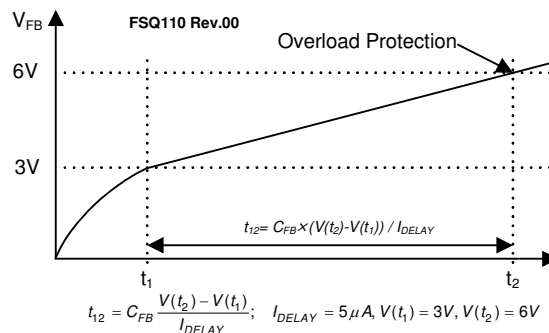

Figure 15. Overload Protection (OLP)
4.1 Overload Protection (OLP): Overload is defined as the load current exceeding a pre-set level due to an unexpected event. In this situation, the protection circuit should be activated to protect the SMPS. However, even when the SMPS is operating normally, the OLP circuit can be activated during the load transition. To avoid this undesired operation, the OLP circuit is designed to be activated after a specified time to determine whether it is a transient situation or a true overload situation. In conjunction with the I_{PK} current limit pin (if used), the current mode feedback path limits the current in the SenseFET when the maximum PWM duty cycle is attained. If the output consumes more than this maximum power, the output voltage (V_O) decreases below nominal voltage. This reduces the current through the opto-coupler LED, which also reduces the opto-coupler transistor current, increasing the feedback voltage (V_{FB}). If V_{FB} exceeds 3V, the feedback input diode is blocked and the $5\mu A$ current source (I_{DELAY}) starts to slowly charge C_{FB} up to V_{CC} . In this condition, V_{FB} increases until it reaches 6V, when the switching operation is terminated, as shown in Figure 15. The shutdown delay time is the time required to charge C_{FB} from 3V to 6V with $5\mu A$ current source.